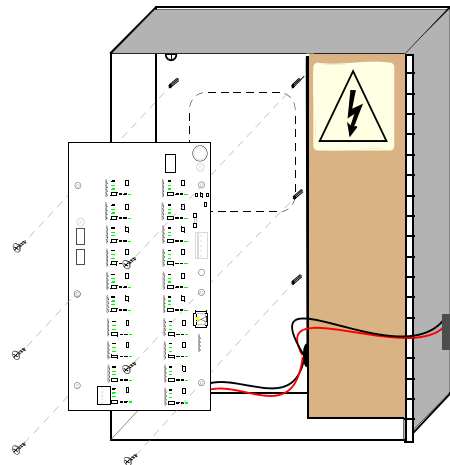

Figure 7: LCM20 Board in the LC3000 Enclosure
- 1 With the enclosure door open, position the LCM20 board, with component side facing out (see Figure 7).